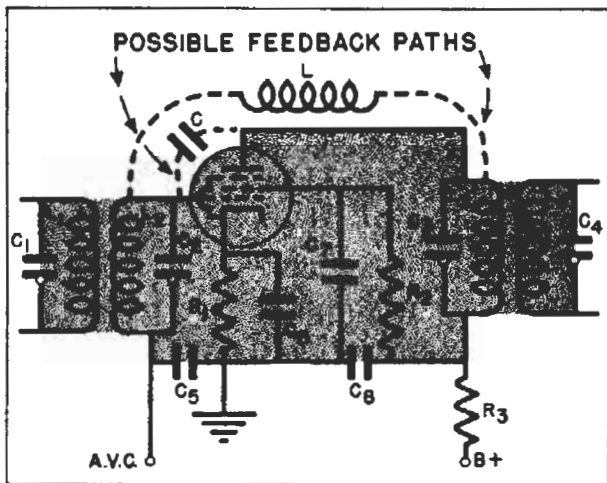

FIG. 20. This i. f. stage can have either inductive or capacitive feedback paths between grid and plate circuits.
Fig. 20 shows a typical i.f. amplifier stage. As in all radio stages, there is a certain amount of grid-plate capacity. This can act as a feedback path—even in modern pentode tubes, in which the screen grid and the suppressor grid both tend to reduce this grid-plate capacity to a very small value. In addition, there is capacity coupling between grid and plate leads, as well as possible inductive coupling between the input and output tank circuits.
► Incidentally, proper alignment may clear up oscillation in a circuit like that in Fig. 20. If the tank circuit C_1-L_1 is far off resonance, the reflected effects on C_2-L_2 are reduced, so the Q factor of the latter circuit will rise. Similarly, if tank circuit L_4-C_4 is far off resonance, the impedance of tank circuit C_3-L_3 will rise. Either condition may produce instability and oscillation. When the circuits are all correctly aligned, the reflected effects will load the tuned circuits in the offending stage and reduce their Q. Further, if the plate tank circuits are carefully tuned slightly below resonance (using an increased trimmer condenser capacity setting), then there is little chance